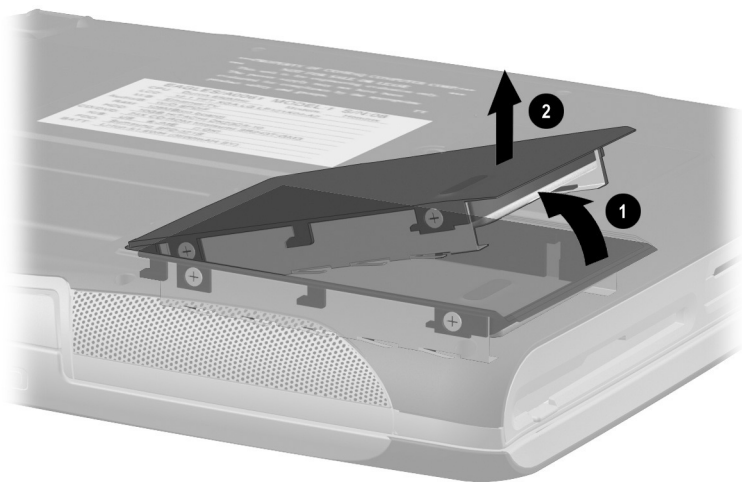

Figure 5-6. Removing the Hard Drive
- d. Swing the right side of the hard drive up and to the left until it is resting at an angle (Figure 5-6).
- e. Lift the hard drive straight up and remove it ②.